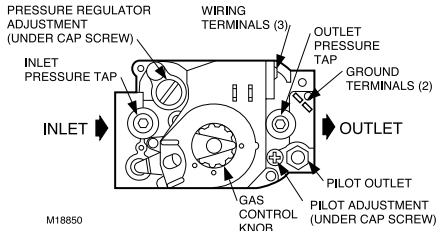

Fig. 4. Top view of gas control.
6. Connect pipe to gas control inlet and outlet. Use wrench on the square ends of the gas control. If a flange is used, place wrench on flange rather than on gas control. Refer to Fig. 4 and 5.
3. Unscrew brass compression fitting from the pilot outlet (Fig. 4). Slip the fitting over the tubing and slide out of the way.
2. With main burner operating, check gas control flow rate using the meter clogging method or pressure using a manometer connected to the outlet pressure tap on the gas control. Refer to Fig. 4.